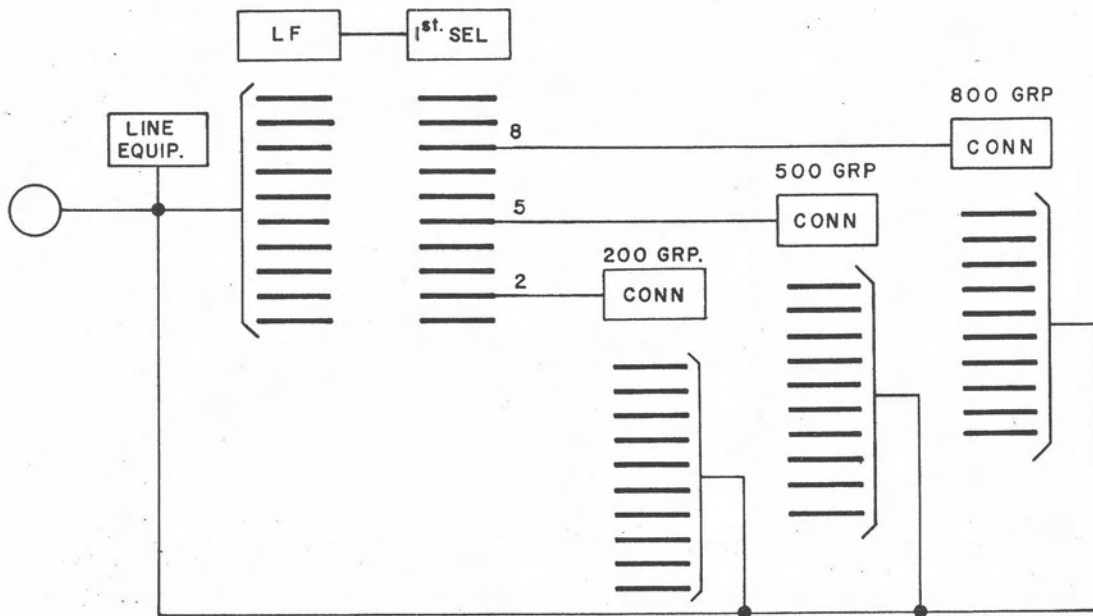
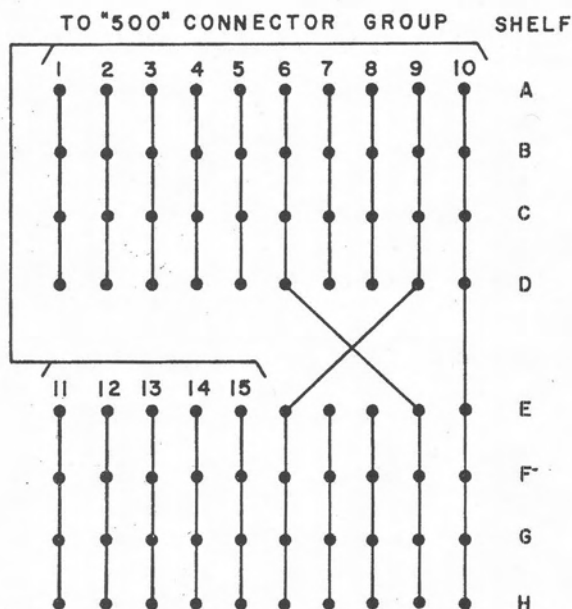

Figure 5. Schematic diagram of 1000 line office.
Figure 11. Grading arrangement giving eight shelves access to fifteen trunks from one level.
A one thousand line office is made up of ten connector groups or shelves and five two hundred line linefinder shelves. In order that all of the one thousand subscribers may call each other, a selector must be inserted between the linefinders and the connectors. This is illustrated in figure 5. As before each linefinder must be associated directly with a numerical switch, and in this case it is a selector. Therefore, instead of having a linefinder-connector-link as in the one hundred line office, there is a linefinder-selector-link. All of the selectors which are tied back to back with the linefinders are
**4.1.3 Grading.** The method of making available to a particular level of a selector group more than ten trunks is termed grading. The traffic load to the succeeding switches determines the number of trunks necessary. Each selector shelf on one level, of course, still has access to only ten trunks, but a portion of the ten trunks may differ between shelves. As an example, the fifth selector level in figure 5 required fifteen trunks. The eight shelves could be graded as shown in figure 11 to provide fifteen trunks. With this arrangement, each shelf has access to only ten trunks, however shelves A, B, C, and D, each have access to trunks 1, 2, 3, 4, 5, 6, 7, 8, 9, 10, in that order, while shelves E, F, G, and H, each have access to trunks 11, 12, 13, 14, 15, 9, 8, 7, 6, 10, in that order. Once again the last contacts of each shelf are multiplied straight to provide for metering. The other four common trunks are reversed at the mid point of the selector group to further add to the equalization of usage of the succeeding switches.
**4.2 Method of operation.** In a one thousand line office a three digit directory number is required to reach a subscriber instead of a two digit number as used in a one hundred line office. The first digit selects the hundreds group and the remaining two, the proper line in the group. For example, let us say figure 5, represents five shelves of linefinders, each shelf having sixteen switches. These eighty linefinders are trunked to eighty first selectors